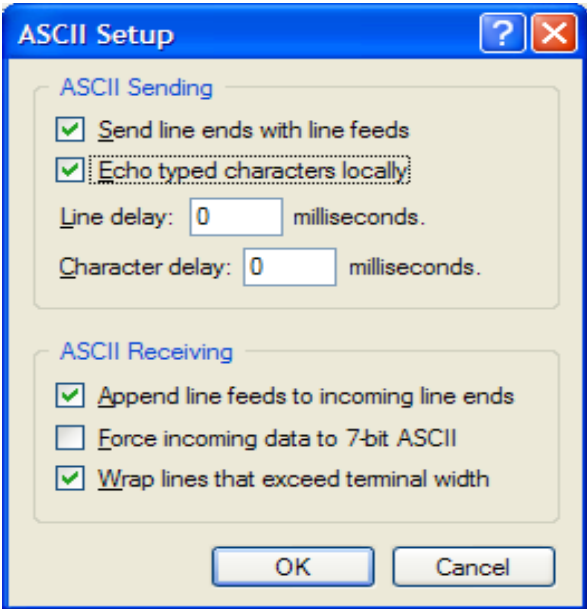

Figure 2-5. Additional Terminal Program Settings
6. In the PC terminal program, set the properties in the optional settings as shown in Figure 2-5.